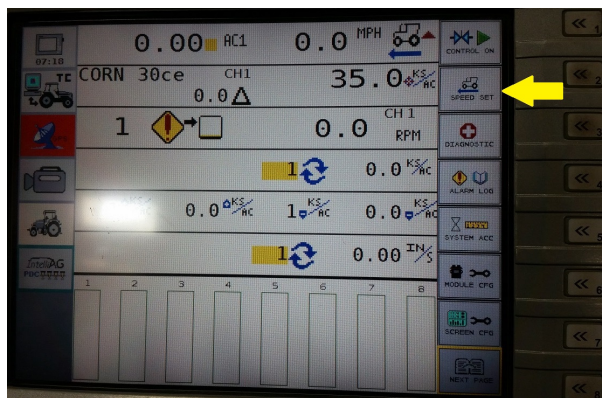

Figure 68
Step 3. Push **Speed Set**. (Figure 68)